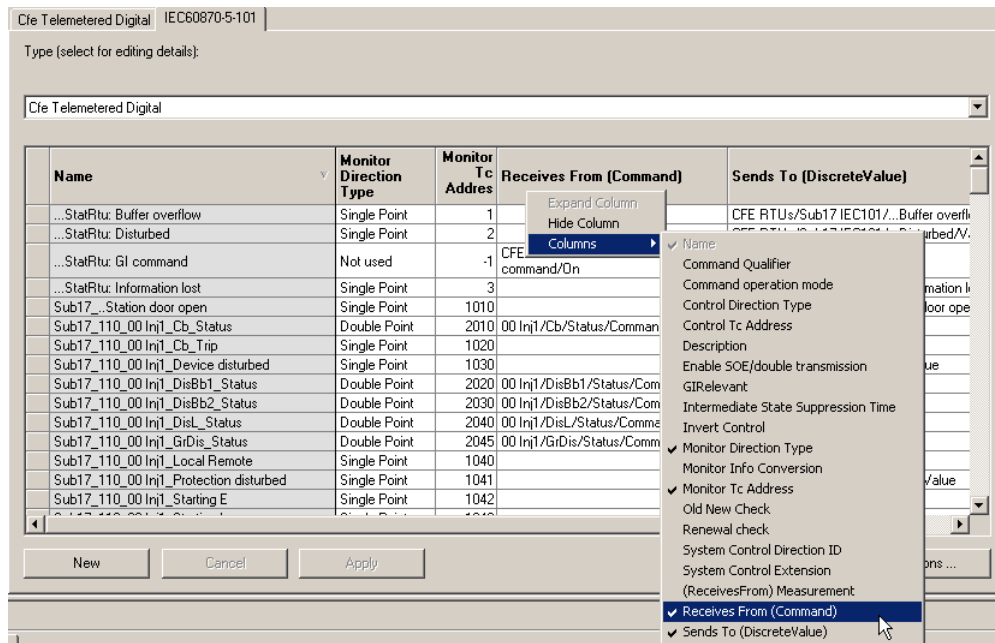

Figure 3-2.50: Hiding Columns By Right-Clicking into Header and Selecting from Menu
- **Hiding:** Click with right mouse button into the header of the table and select the columns to be hidden or made them visible again (Figure 3-2.50).